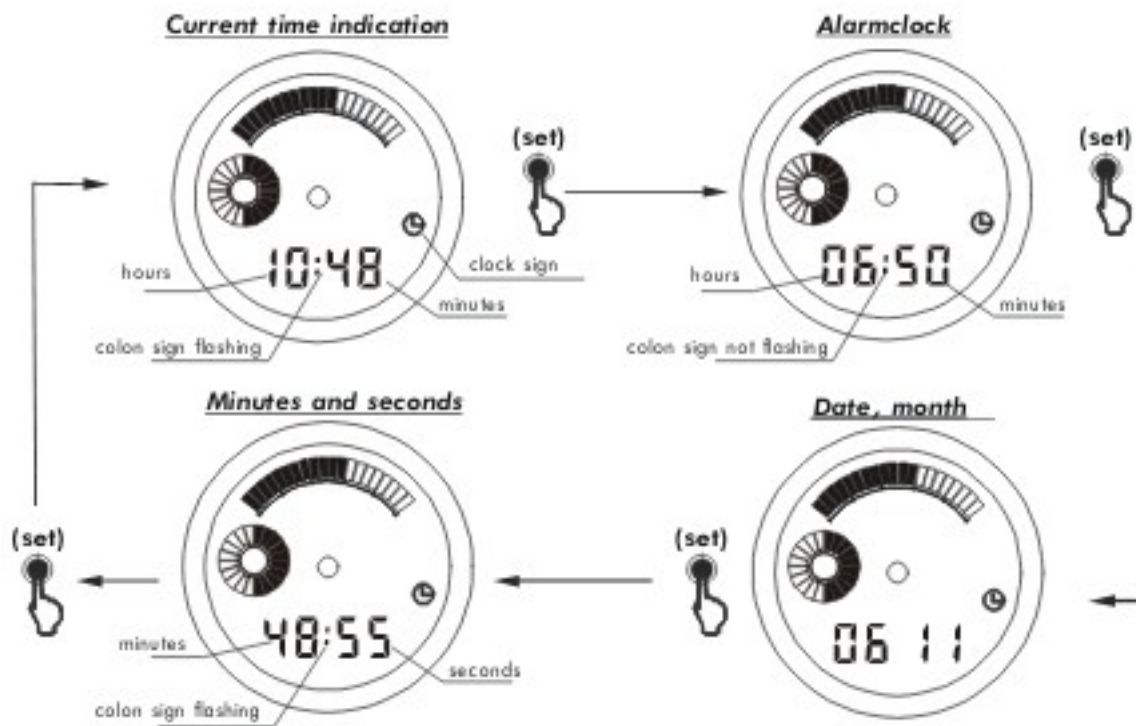

Fig. 2.3
Enter the Current time mode as described in paragraph 2.4.1. Press and release the “**set**” button (2) to see on the following information on the LCD in rotation (Fig. 2.3):